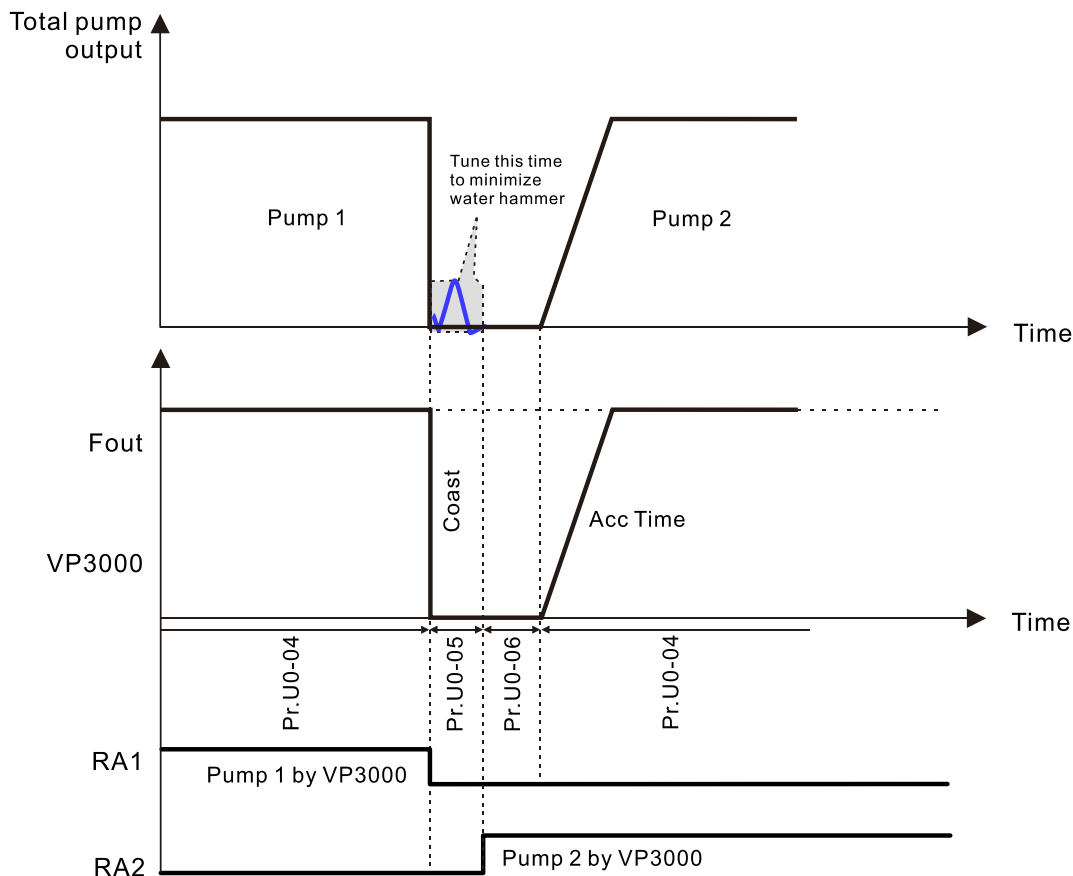

Figure 6 Time Circulation Output Delay Sequence
- 📖 The time circulation includes Pr.U0-05 (Time Circulation Switch Delay) and Pr.U0-06 (Time Circulation Output Delay) in pump-to-pump switching (refer to Figure 6).